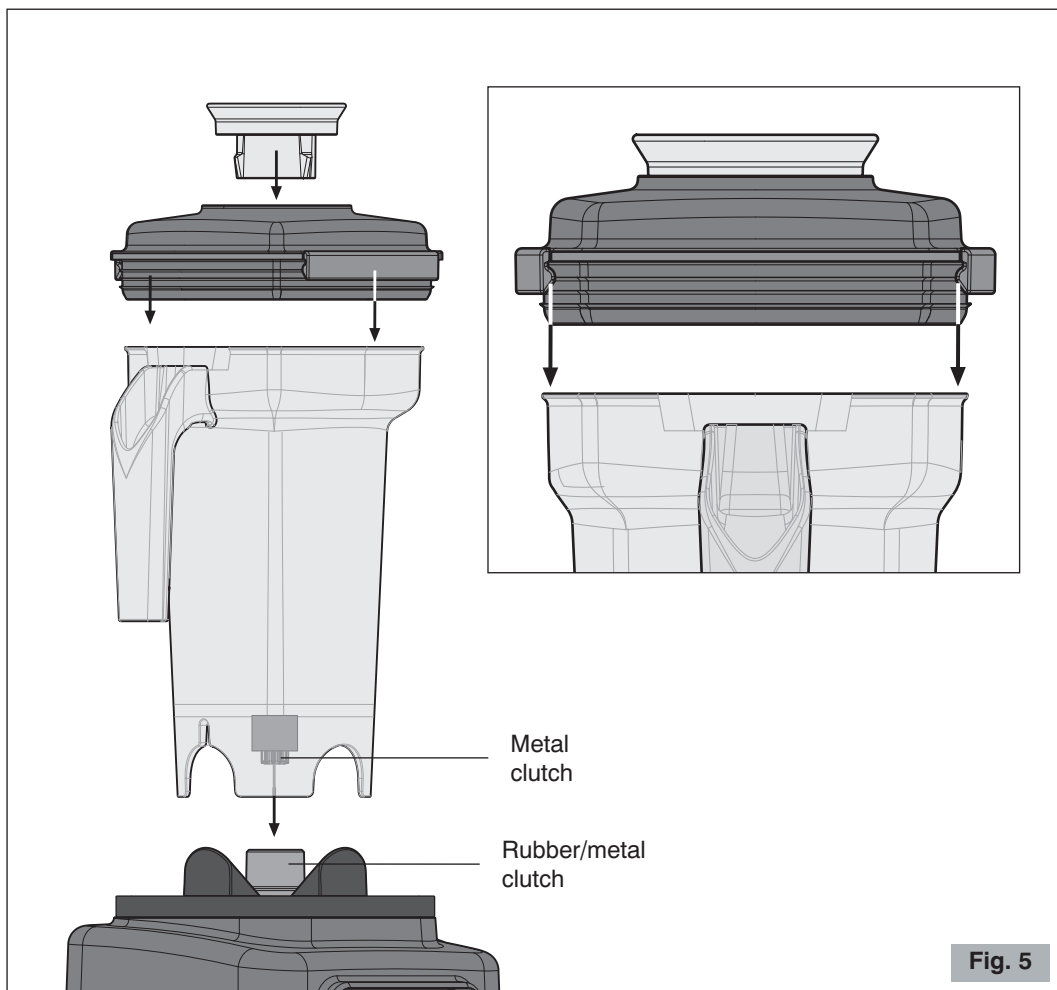

Fig. 5
- 2** Stand the container on the base fitting it into its support as shown in figure 5.
- 3** Fit the lid on the container by pressing on the closing hooks (see Fig. 5).